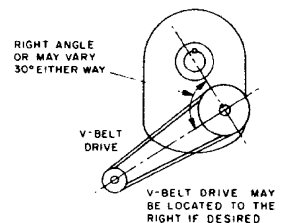

Fig. 3
5. Install motor and V-belt drive so belt will approximately be at right angles to the center line between driven and input shaft. (See Fig. 3) This will permit tightening the V-belt with the torque arm.